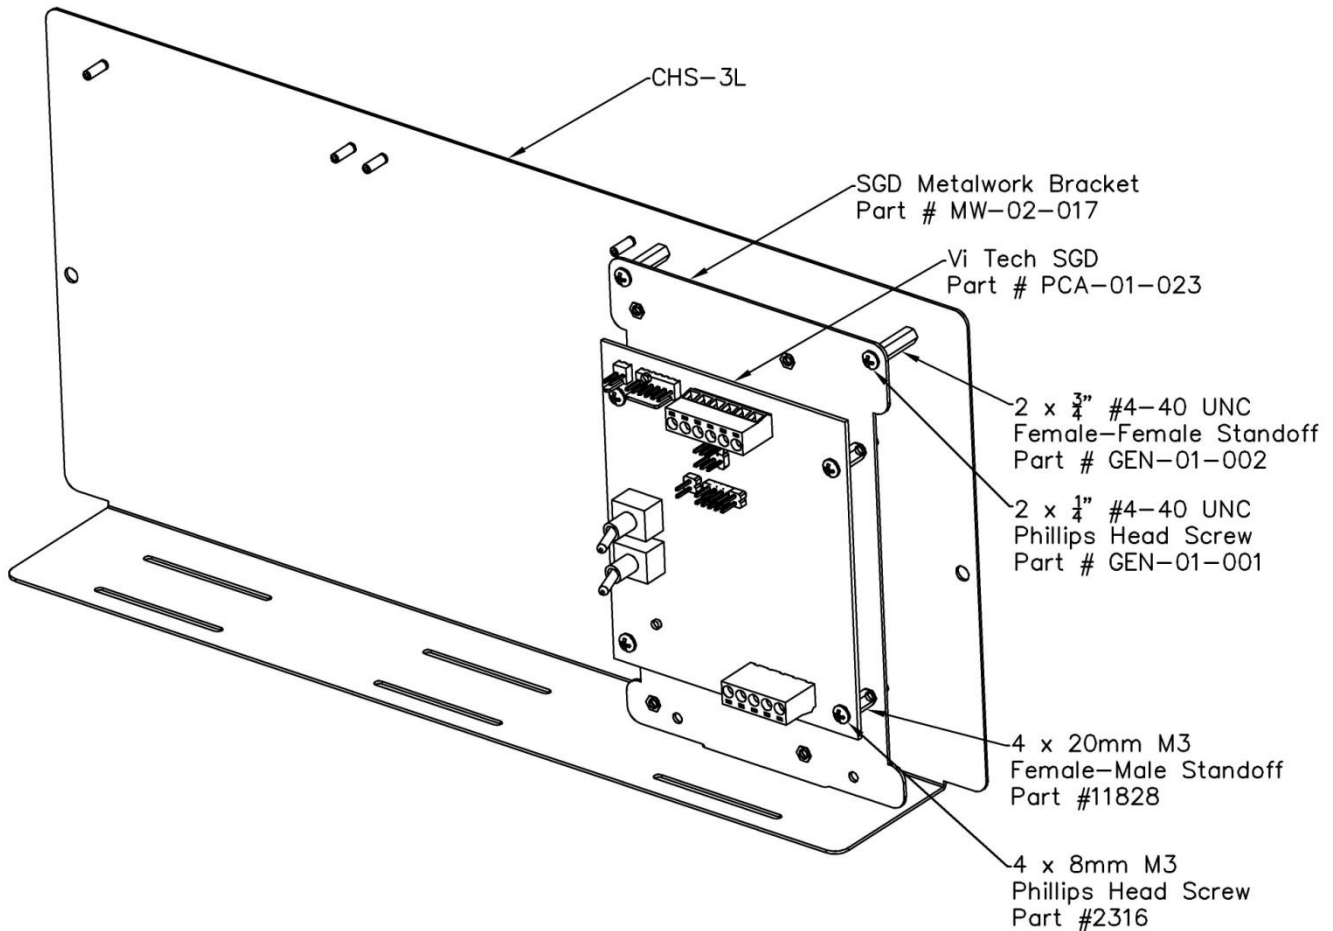

Figure 4: Mounting SGD on CHS-3L
1. Connect the SGD bracket to a CHS chassis using two $\frac{3}{4}$ " #4-40 standoffs and two $\frac{1}{4}$ " #4-40 screws as per Figure 4.
2. Mount the SGD onto the plate by using four 20mm male to female M3 standoffs and four M3 x 8mm screws as per Figure 4.